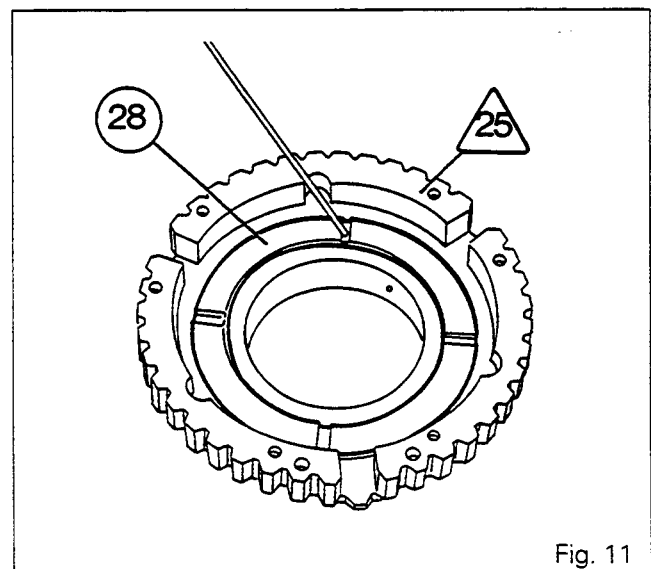

Fig. 11
25. Take out splined hub (15).
26. Take out pressure plate (41), disc (42), spring washer (43), pressure plate (44), disc (45), spring washer (46) and pressure plate (47).
27. Withdraw piston (28) from cover /25\ (Fig.11).
28. Remove O-rings (26) and (29) and discard them.
- N.B. : In the super creeper version, cover /25\ and piston (28) differ from those in the 30 and 40 km/h versions. The cross-sectional area of the piston is greater and this means that the diametric cutouts in the cover are larger.**